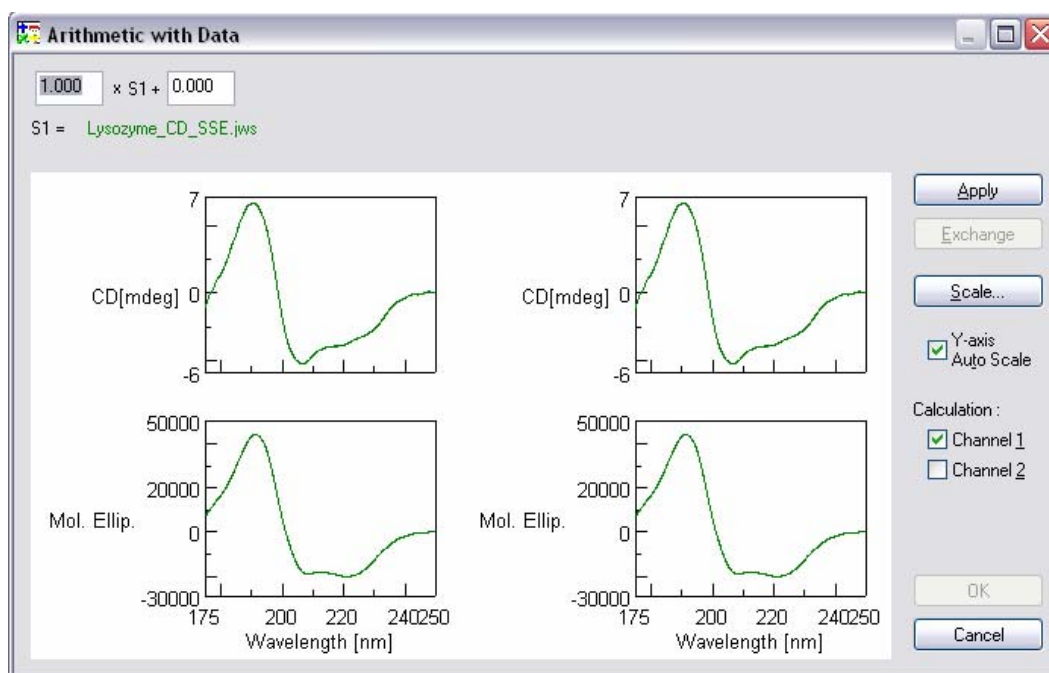

Figure 7.27 [Arithmetic with Data] dialog box (before calculation)
- [Exchange]: Exchanges the contents of S1 and S2. Click on the <Exchange> button shown in Fig. 7.27 or 7.28 for example, the contents of S1 and S2 become Lysozyme\_CD\_SSE.jws : Mol. Ellip. and Lysozyme\_CD\_SSE.jws : CD[mdeg], respectively.